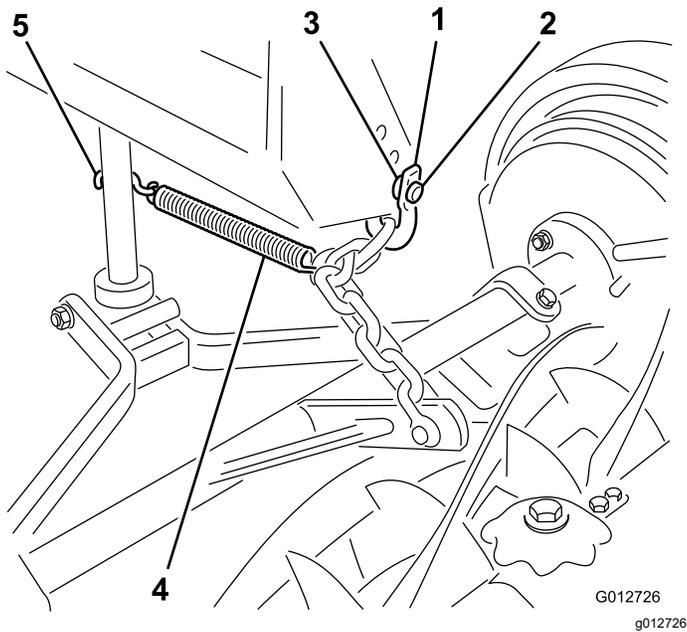

Figure 35
4. Secure the lift chain to the lift arm and the cutting unit mounting bracket with the long shackles, clevis pins and cotter pins (Figure 35).
- Hook the spring to the fifth link in the chain from the cutting unit, and secure the other end of the spring to the lift bail with the S-hook (Figure 35).